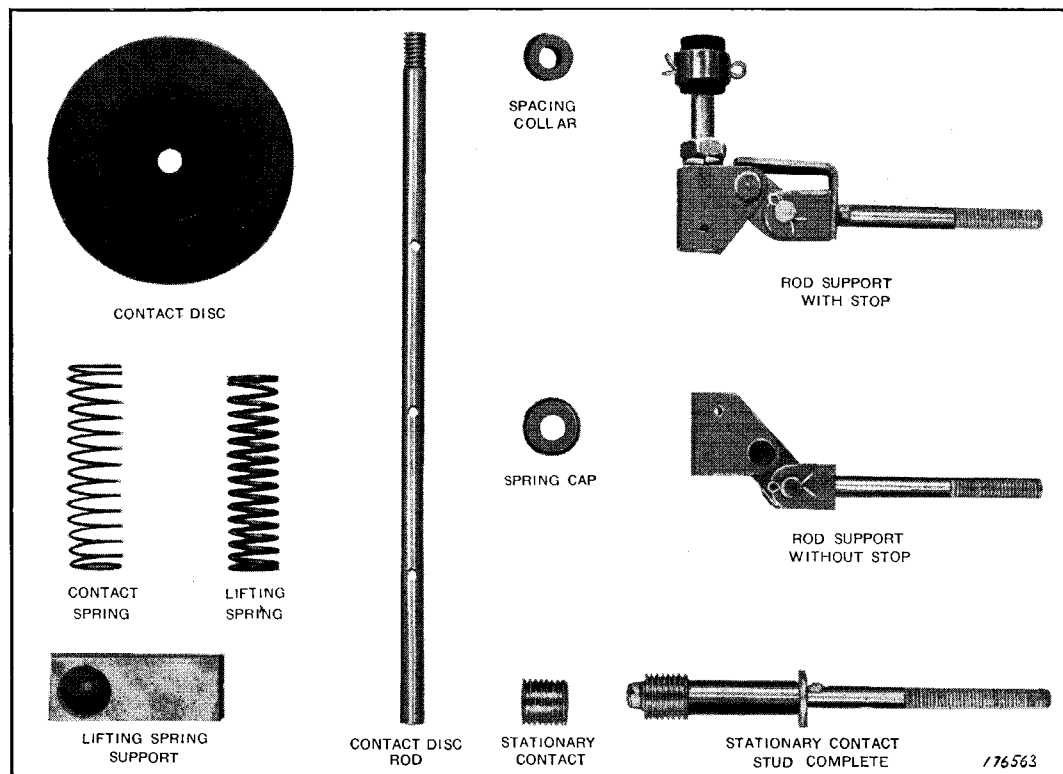

FIG. 4—RENEWAL PARTS FOR TYPE L-26 ELECTRICAL INTERLOCK
1. Name the part, using the name shown on the illustration, figure 4, and state the quantity desired.